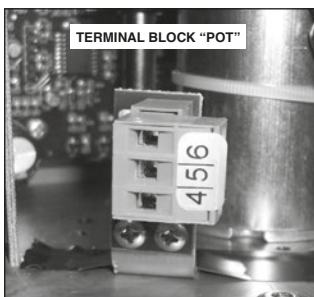

Fig.5 Electric actuator particular of the terminal block "POT"
6.3 Potentiometer wirings (optional) (Fig.5)
The actuator with potentiometer includes an extra terminal block "POT" (Fig.5) which grants the possibility to use the resistive information concerning the actuator position. Wiring instruction presented at paragraph 10.0. When the actuator is at 45°, the resistance value of the potentiometer is 2,5KΩ.